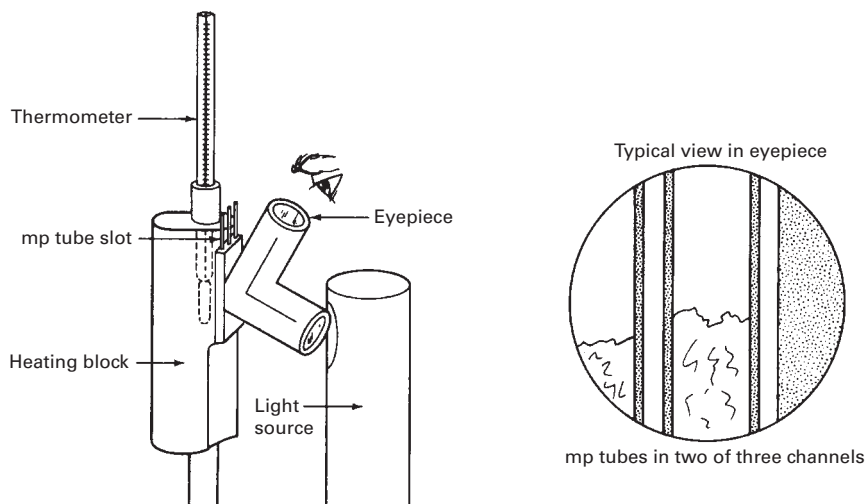

FIGURE 12.4 Close-up of the viewing system for the Mel-Temp apparatus.
6. **Eyepiece.** Magnifies the sample (Fig. 12.4).
2. Place the loaded mp tube in one of the three channels in the opening at the top of the unit (Fig. 12.4).